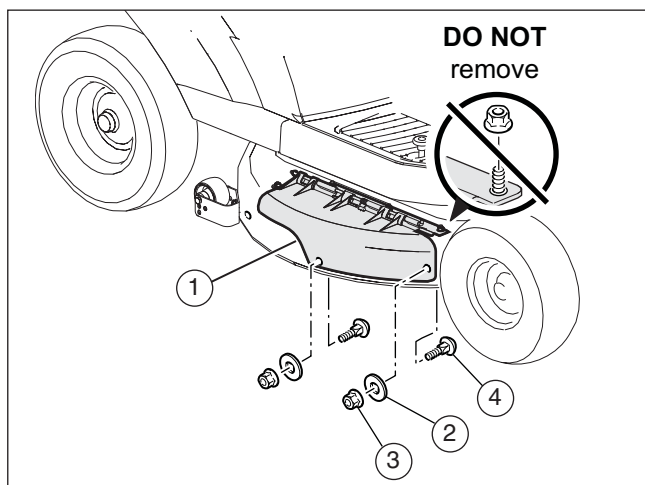

Figure 11
2. Mount the mulcher cover (1) to the mower deck with the bolts (4), washers (2), and flange nuts (3) (see **Figure 11**).